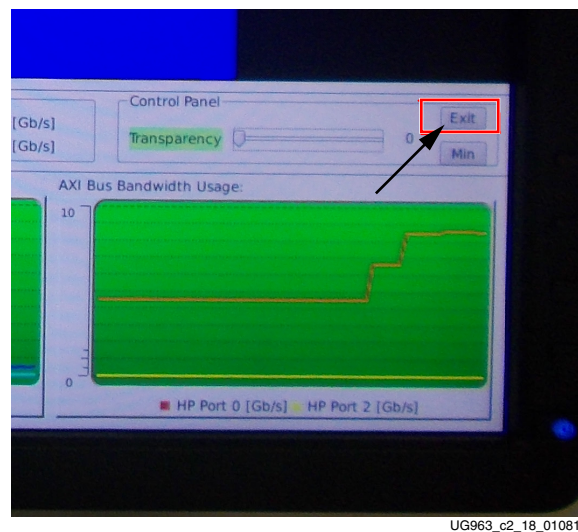

Figure 2-18: Exiting the Qt GUI
12. User can exit the Qt GUI by clicking on the Exit button in the GUI as shown in Figure 2-18.